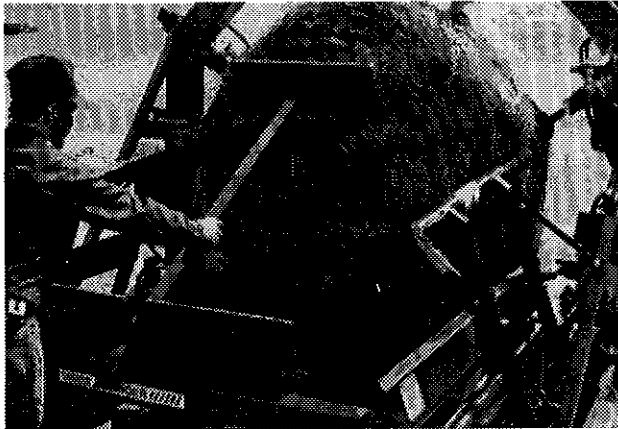

Figure 33
- 9) To push the last bale into the tube, install the pusher extension supplied with the SilaTube. (Fig. 33)